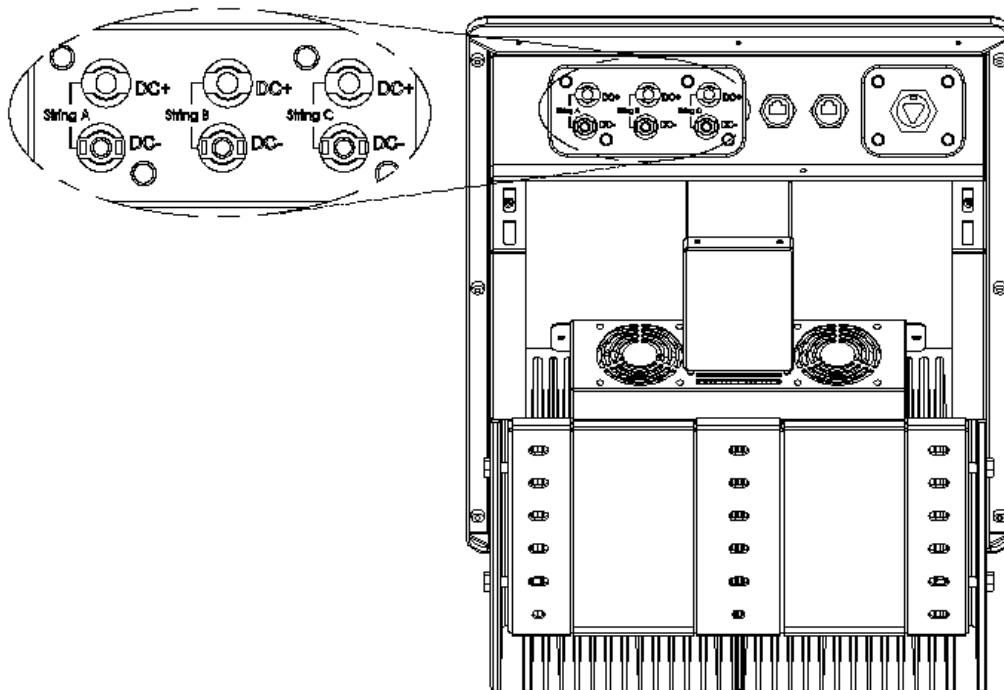

Fig 3.3.2.1 DC terminals for DC cable connection
Each PV string shall provide a DC input voltage with maximum power of 4500W and maximum current of 10A. There are two (2) terminals, labeled “+” and “-”, per DC voltage input located on the bottom of the inverter used for the DC cable connections, shown in Figure 3.3.2.1, Figure 3.3.2.2 and Figure 3.3.2.3.